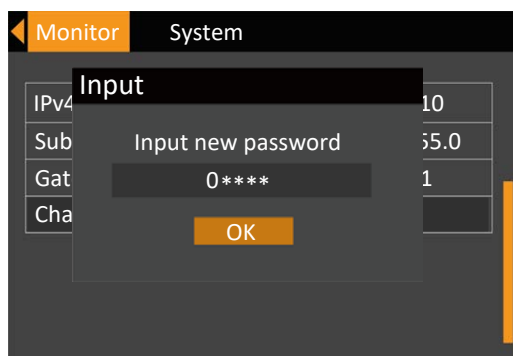

Figure 5-23 Inputting new password
4. Input the existing password, press the  key to confirm it, then the system requires to input a new password. See Figure 5-23.